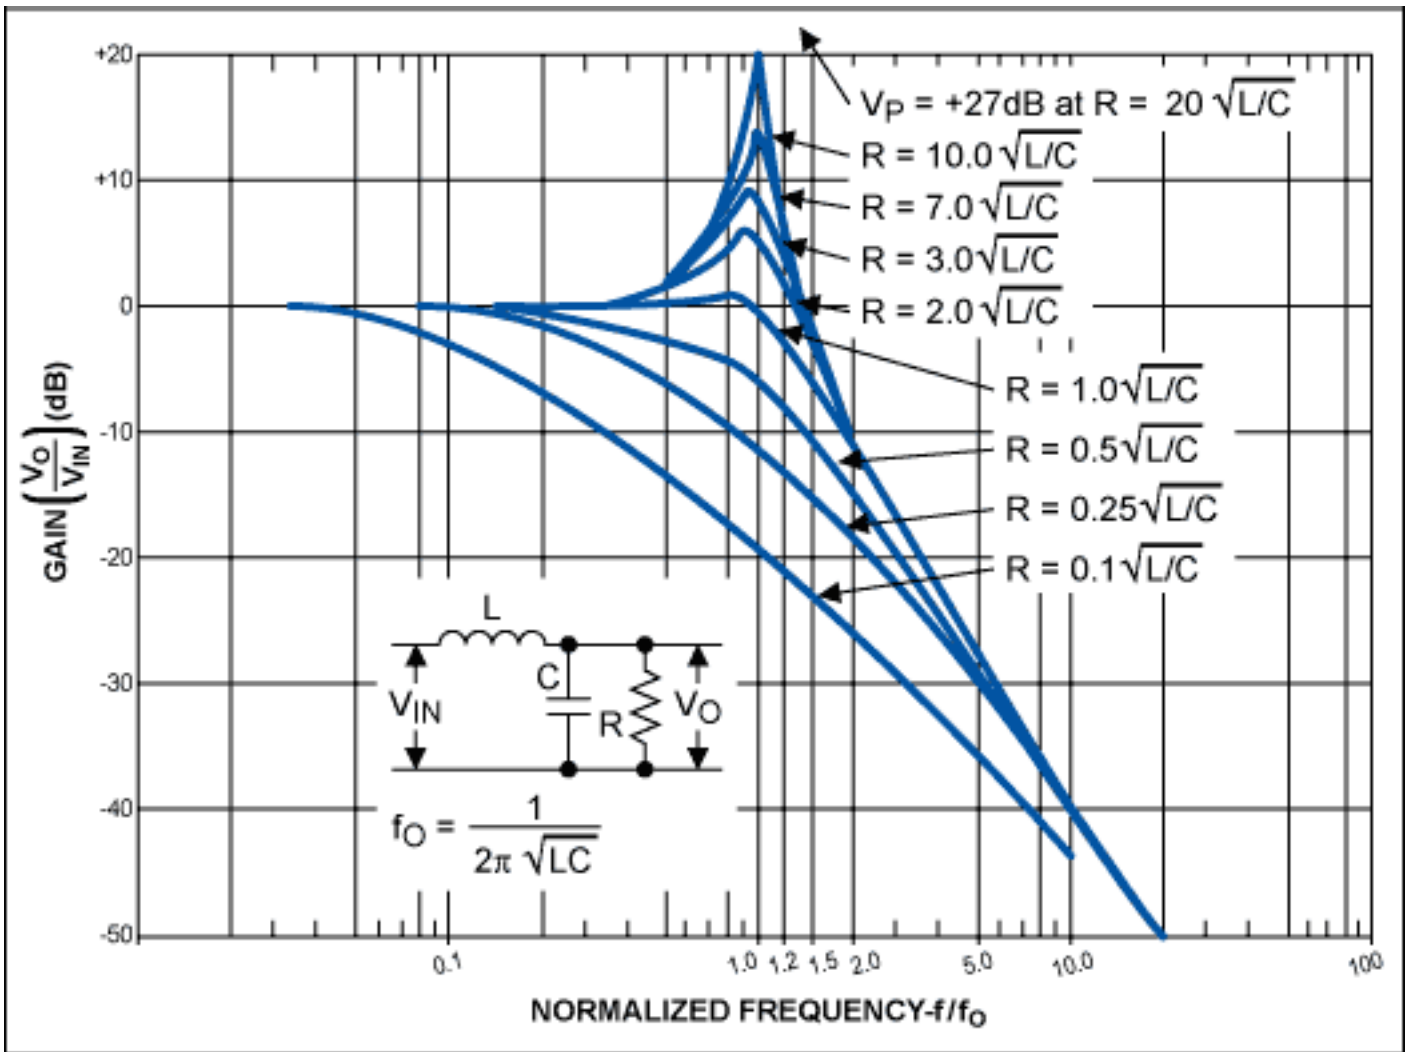

Figure 4a. LC filter amplitude characteristic for various damping ratios
2. An LC filter. The problem with using this type of filter is the lack of inherent damping at the output of the network (input of the regulator). The source impedance of the network is low. However, the regulator's V_{IN} terminal presents a high impedance shunted with a small capacitor. (When the regulator is operated away from dropout with a constant load, its input current does not vary, to first order, when V_{IN} is varied.) It is impossible to critically damp the LC network at the input of the regulator without significant DC loss in the shunt damping resistor. For example, a series $10\mu\text{H}$ inductor in combination with a shunt $100\mu\text{F}$ capacitor exhibits a turnover frequency of 5kHz ; this combination requires a critical damping resistor of 0.32Ω between network output (regulator input) and ground. Figure 4a illustrates the problem.